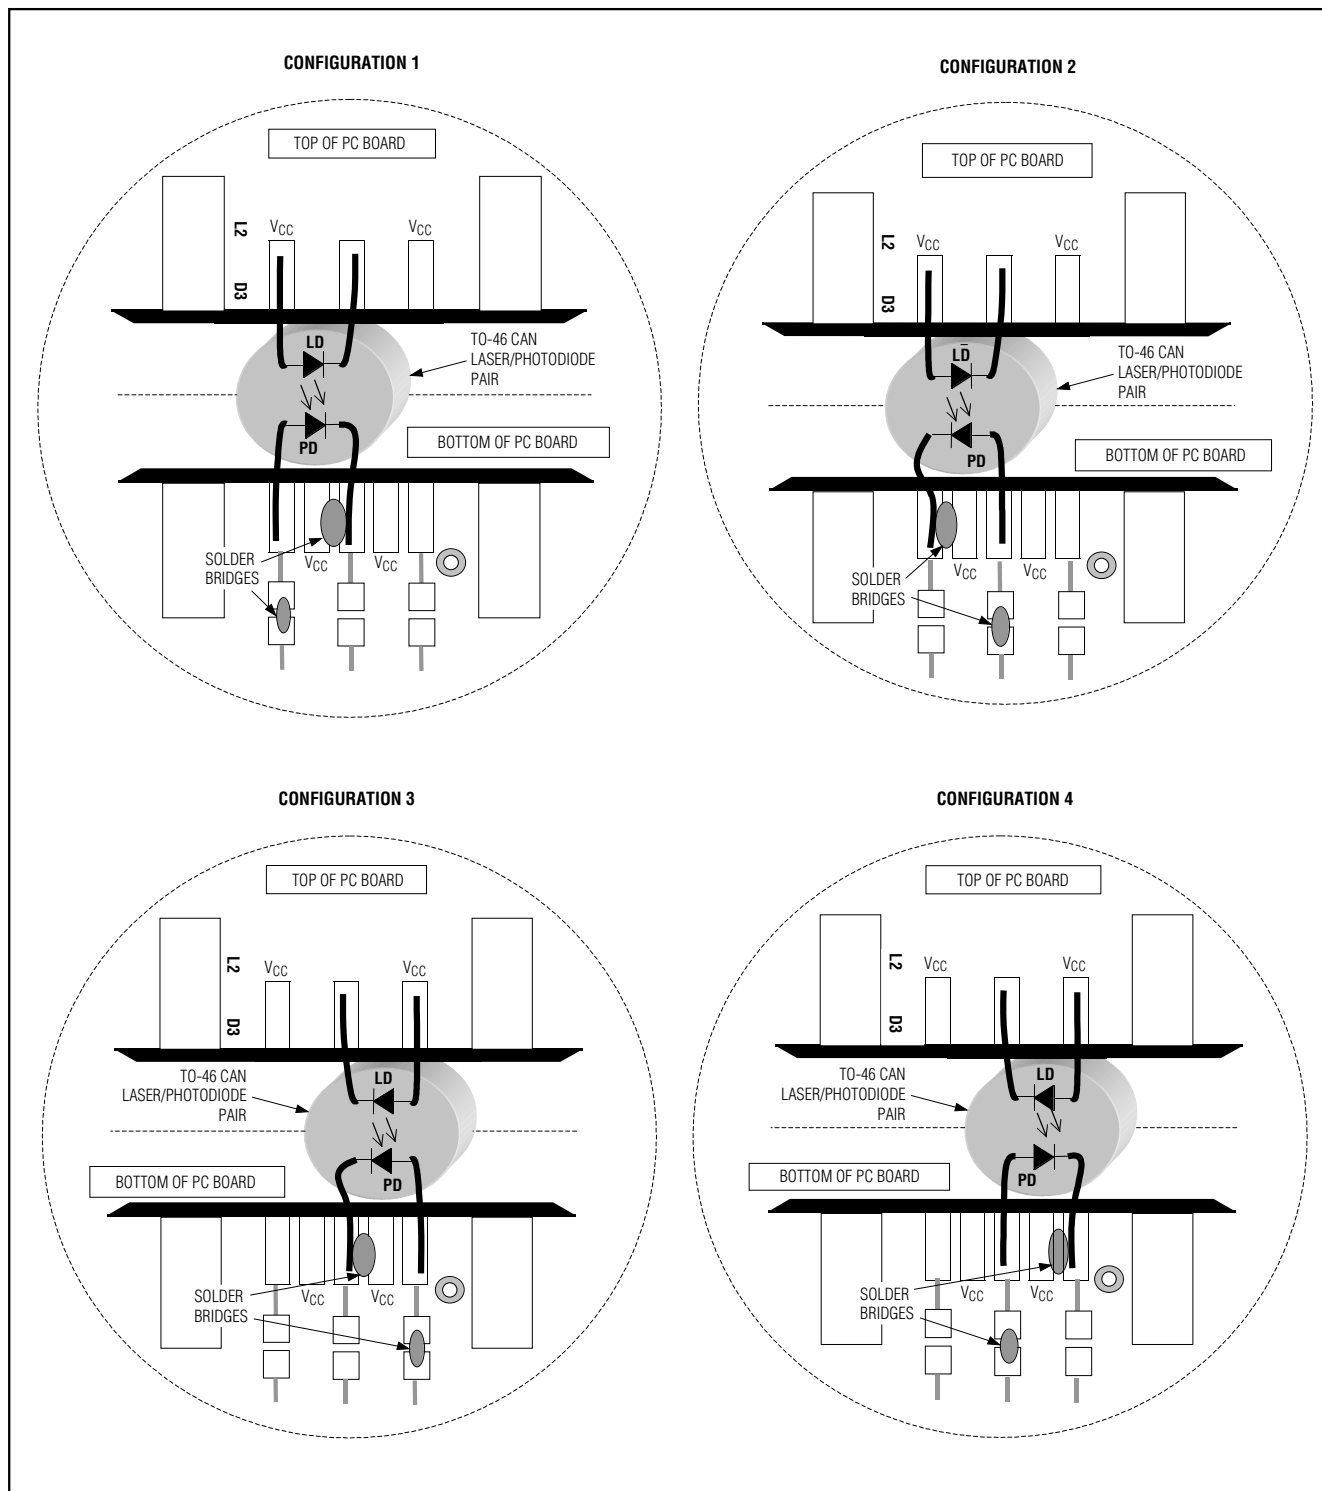

Figure 1. Attachment of Laser Diode/Monitor Diode to MAX3663 EV Kit
- 2) Connect a TO-style header laser and monitor diode (Figure 1) as follows: